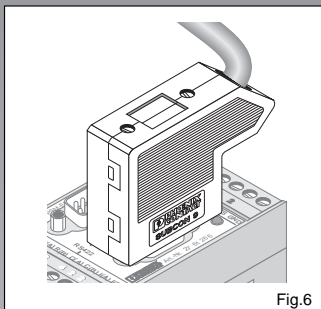

Fig.6
- **SUB-D plug connector (Fig. 6)**
- **Connecteur SUB-D (Fig. 6)**
- **Conector enchufable SUB-D (fig. 6)**